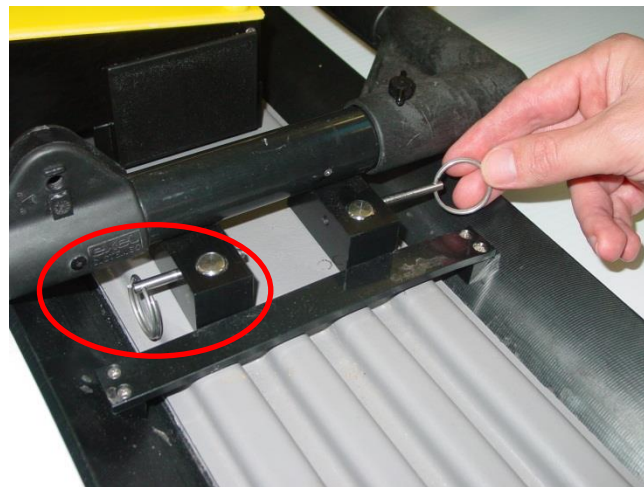

Figure 2-38: Securing SmartTow frame to Noggin 100 antennas
7. To secure the SmartTow frame to the Noggin 100, insert the pins into the eight post blocks (Figure 2-38)